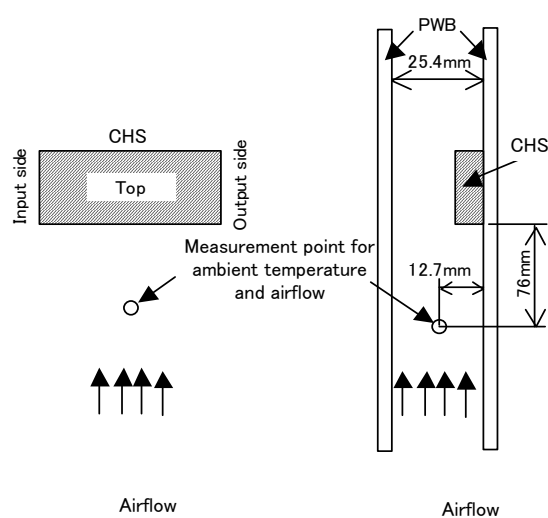

Fig1.1 Measuring method
- (1) Input : DC 48 [V]
(2) Output : Rated output
(3) Air flow : 2.0[m/s]
(4) Measuring method : Shown as Fig1.1